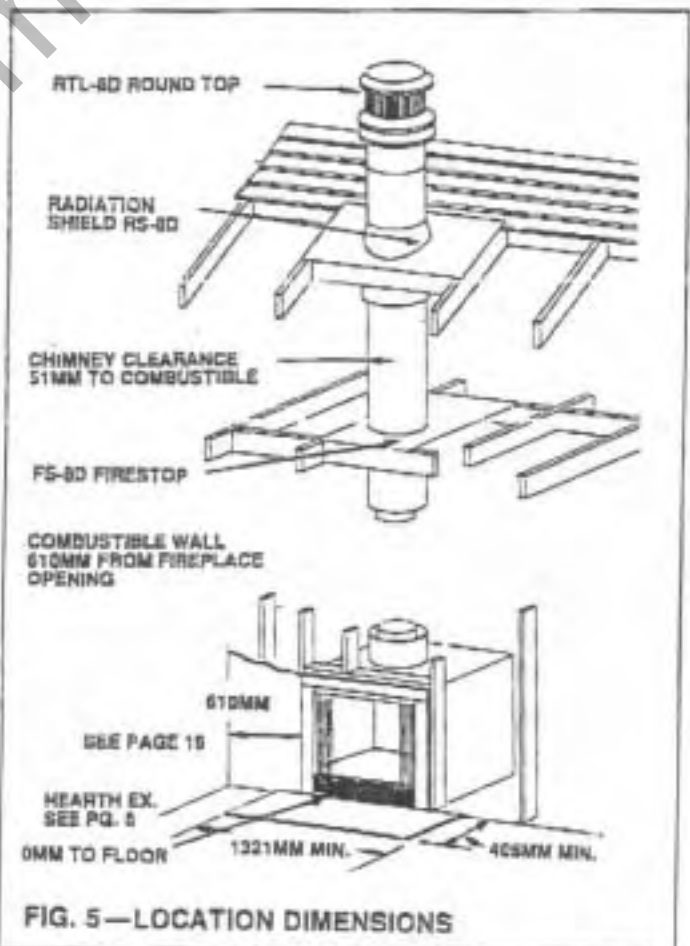

FIG. 5—LOCATION DIMENSIONS
- A fireplace must not be installed closer than 610MM to any unprotected combustible wall perpendicular to the fireplace opening. (Figure 5, 30, 31) When a MARCO-CHYS insulated wall shield (or equivalent protection) is used, clearance may be reduced to 350MM (See page 16 Fig. 30).
- When installed in accordance with the instructions given in this manual, the fireplace system may touch combustible materials at the bottom. (Fig. 5).
**SEE FIG. 5, PAGE 6 FOR AIR INLET DETAIL.